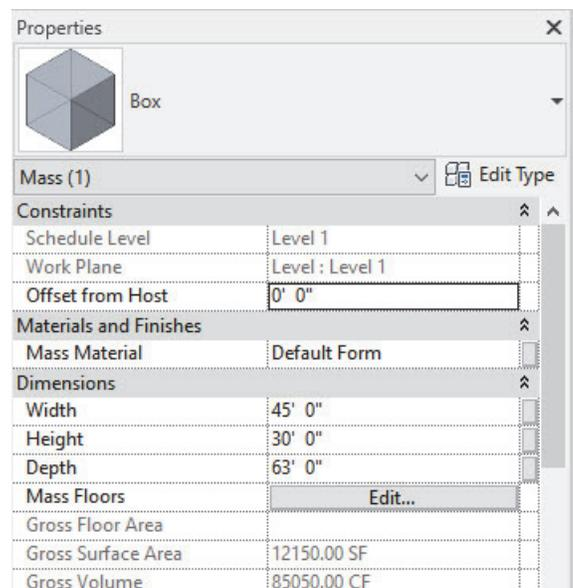

Figure 1-20
8. Use Properties to set the heights as indicated on the existing site plan, as shown in Figure 1-20.